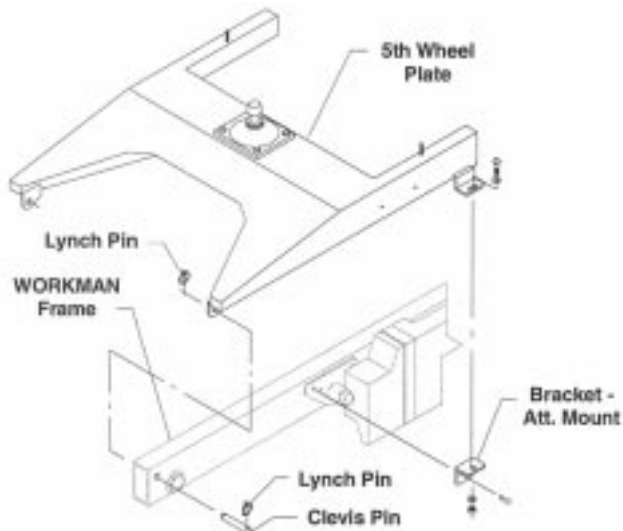

Figure 6
2. Attach both Bracket Attachment Mounts (92-2667) to both sides of the Workman, using the rear two bolts of the main engine support tube. Do not tighten these bolts at this time. (Fig. 6)
3. Set the 5th wheel plate on top of the Workman frame channels. (Fig. 6)
4. Attach 5th wheel hitch plate to rear of frame using both clevis pins (92-1233) and secure with lynch pins (92-1298). (Fig. 6)
5. Connect front of 5th wheel hitch plate to bracket attachment mounts using (2) 1/2" x 1-1/4" bolts, (4) flat washers and (2) lock nuts. Tighten all six bolts. (Fig. 6)